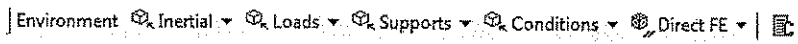

Figure 9-3 The Environment contextual toolbar
In ANSYS Workbench, the various tools related to boundary conditions are available in the **Environment** contextual toolbar, which is displayed when you select the **Static Structural** node in the Tree Outline, refer to Figure 9-3.
- 1. Select the **Static Structural** node in the Tree Outline; the **Details of “Static Structural”** window is displayed. Also, the **Environment** contextual toolbar is displayed, refer to Figure 9-3.